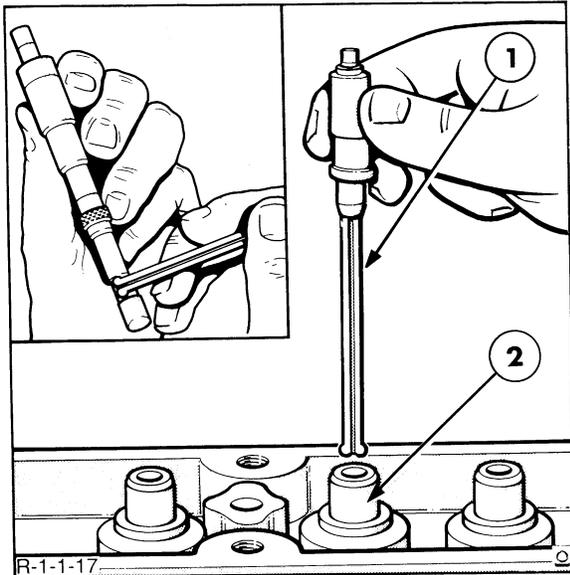

FIGURE 1-18
1. Using a telescopic gauge and micrometer, measure the valve to guide clearance, Figure 1-18. If the clearance exceeds the specified limits (below), ream the valve guide to fit the next oversize valve.